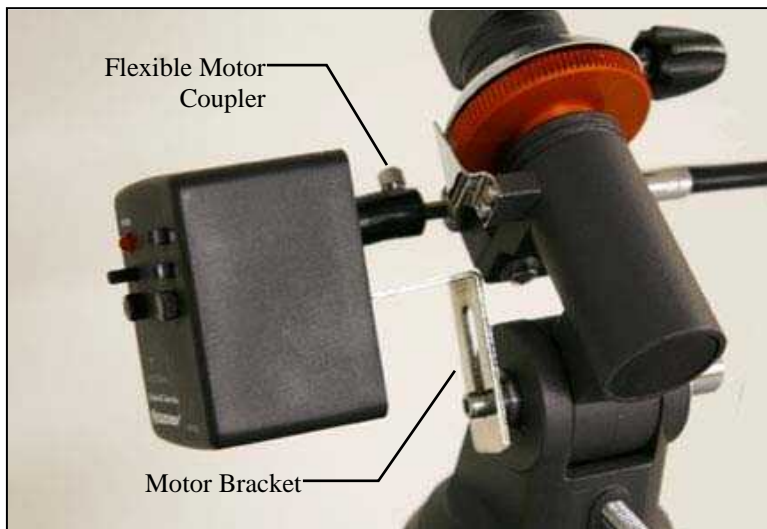

Fig 2 – Motor drive shown on CG-2 Mount
4. Use the same nuts and screws to attach the desired bracket (for the CG-2 or CG-3 mount) as shown in Figure 2.
2. Remove the 3/8" long Allen head screw located on the side of the polar shaft. For the CG-2 mount it is located opposite of the latitude scale. For the CG-3 mount it is located on the side of the polar housing. See figure 2 & 3.